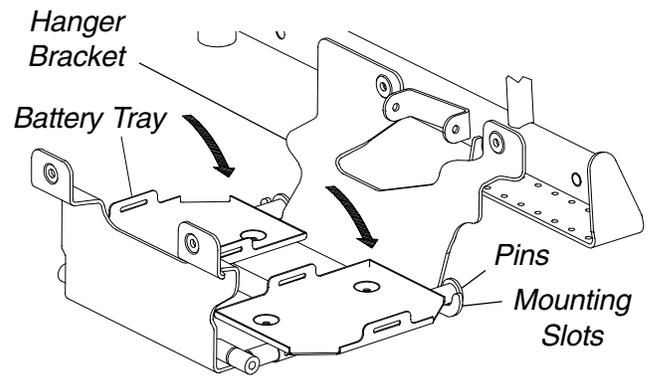

FIGURE 21 - BATTERY TRAY - UNFOLDING BATTERY TRAY FOR USE
**Unfolding Battery Tray for Use (FIGURE 21)**